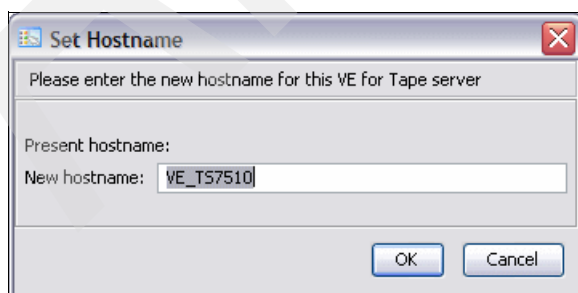

Figure 5-28 Set Hostname
2. Enter a valid host name, as shown in Figure 5-28.